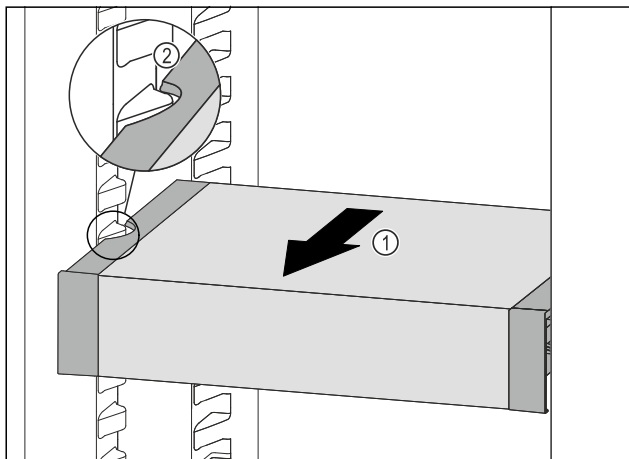

Fig. 80
- ▶ Pull VarioSafe forwards Fig. 80 (1) until the recesses in the side of the VarioSafe are at the level of the support rib in the fridge section. Fig. 80 (2)